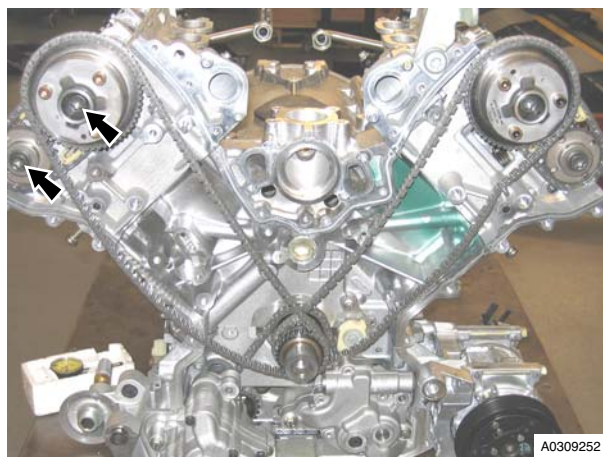

Figure 1
2. Remove the two M12 Torx bolts that attach the inlet and exhaust camshaft sprockets to the camshafts (refer to Figure 1).